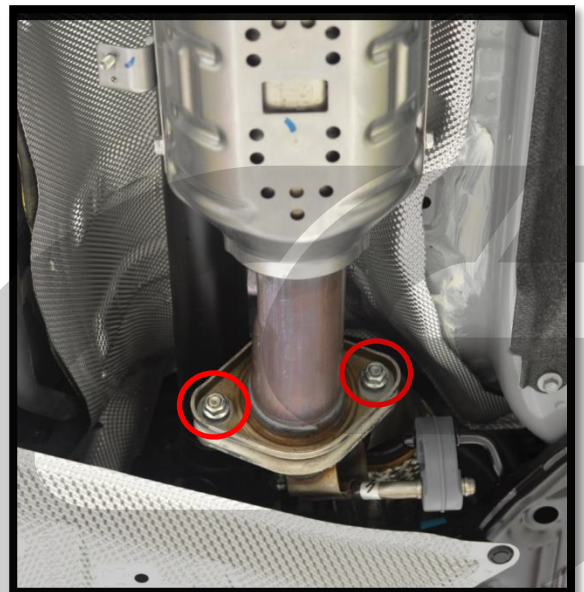

Figure 2f
- e) Using a 14mm socket and extension if desired, remove the two nuts holding the factory midpipe to the downpipe (bolts circled in red in Figure 2f). The entire midpipe assembly can now be removed from the vehicle.